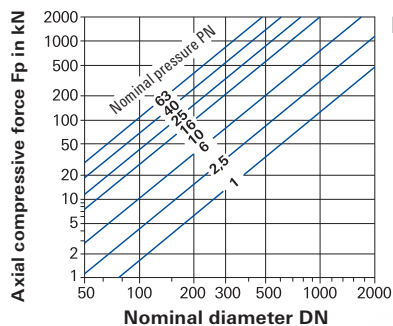

Fig. 2
- Make sure that the fixed points at the ends of pipeline sections fitted with expansion joints are of adequate size. They must be able to withstand not only the axial compressive force, which can be very large, but also the adjustment force of the expansion joint and the friction forces of the pipe guides and supports (Fig. 2)